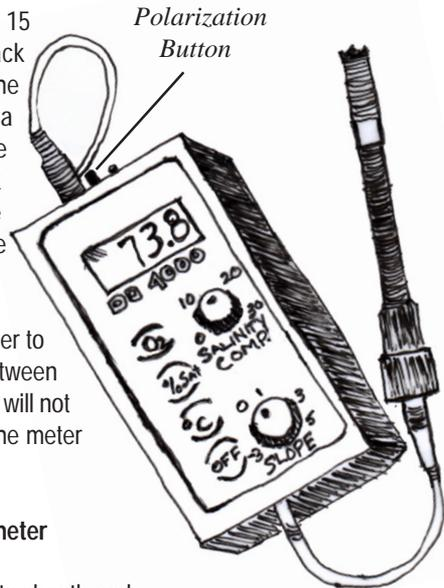

Figure 3-7 D.O. 4000
Oxygen is measured in its dissolved form as either milligrams per liter (mg/l), or percent saturation. You will be using the LaMotte 4000 dissolved oxygen meter (DO Meter) to take both DO measurements and water temperature (Figure 3-7).
2. After the probe has stabilized for 15 minutes depress the unmarked black polarization button located on top of the meter so that the button extends in a position slightly raised from the surface of the meter. This unmarked black button is immediately adjacent to the location of the probe's connection to the meter (Figure 3-7).
3. Turn the salinity and slope knobs to zero (Figure 3-7).
1. Set the "Salinity Comp" knob to the salinity of the sample water. (If sampling fresh water salinity is assumed to be zero). If you are sampling a lagoon or the ocean use a salinity measurement that was taken separately (see Conductivity/Salinity section on pgs. 3-37-42). Press the " % SAT" button to turn the meter on (Figure 3-7).